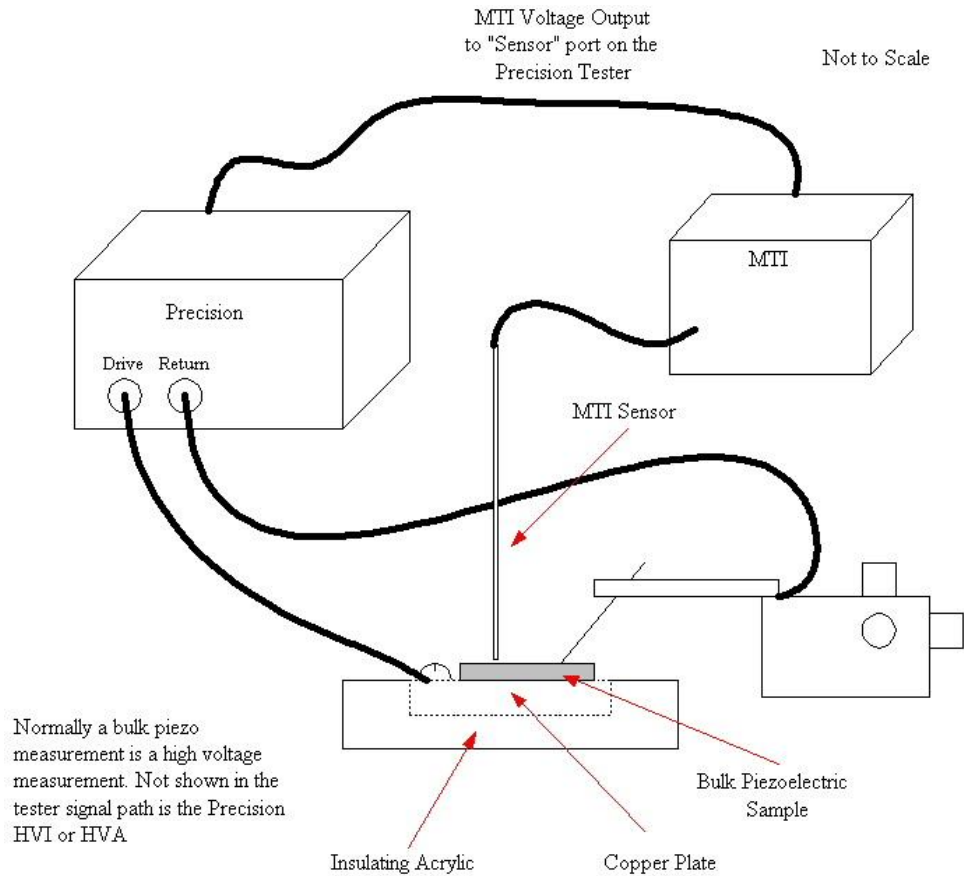

Figure 1 - Typical Piezo Task Experimental Configuration.
1. Connect a BNC coax cable between the “CH1 Displacement” output of the MTI2000 back panel (“CH2 Displacement” if you are using the channel 2 plug-in module) and the “SENSOR” or “SENSOR 1” input on the rear panel of the Precision tester. (**Figure 1** shows the standard configuration using a RTI Simple Test Station. The configuration of the HVDM for displacement measurements is discussed further below.)
Radiant Technologies, Inc. offers four types of high voltage test fixtures, including the Simple Test Fixture of **Figure 1**. The High Voltage Test Fixture (HVTF), has been very popular due to its ease of use and its safety features when working with high voltage ceramic samples. Radiant has a second version of the HVTF, designated the HVDM, that allows the MTI2000 Displacement Meter to monitor the piezoelectric displacement of the sample in the HVTF during high voltage testing. The HVDM simplifies the fixture requirements for the MTI2000 displacement sensor. It also decreases the effects of external vibration noise on the measurements and improves the signal-to-noise ratio of the displacement measurement.